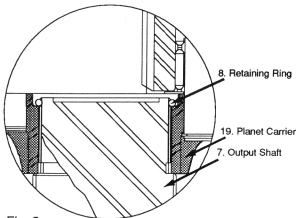
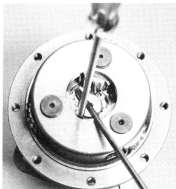

Fig. 2
Fig. 3
- Remove sungear (31) from small planet gears (35).
- Remove small planet carrier assembly (25) from large planet gears (40).
- Remove six bolts (21) from transition plate (20).
- Remove transition plate (20) from housing/internal gear (11).
- Remove 'O' rings (13) from internal gear/housing (11).
- Remove retaining ring (8) from groove in shaft (7). (Fig. 2 & 3)
Note: (8) is a wirelock retaining ring that retains the planet carrier assembly (19) on the output shaft (7). This locking ring must be pried out of the locking ring groove to remove the planet carrier assembly (19). This typically is accomplished by inserting two long screwdrivers between the planet gears and carefully working the wirelock out of the locking groove. (Fig. 2 & 3)
- Lift planet carrier assembly (19) from shaft (7).
- Bend tab on lock washer (17) away from lock nut (18).
19. Lubricate spline end of shaft (7), lay retaining ring (8) on end of shaft. (Fig. 2) Slide large planet carrier assembly spline onto shaft spline. Reach through the planet carrier and seat retaining ring (8) into groove at end of shaft (7). (Fig. 3) This is best accomplished using two long screwdrivers. (Fig. 3)
20. Lubricate and place 'O' ring (13) onto pilot of transition plate (20).